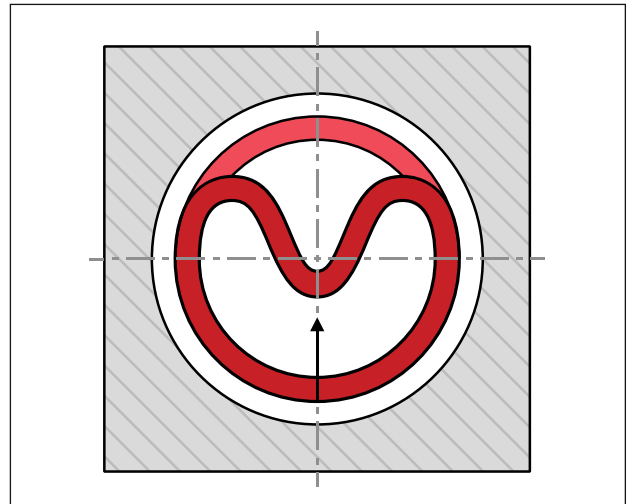
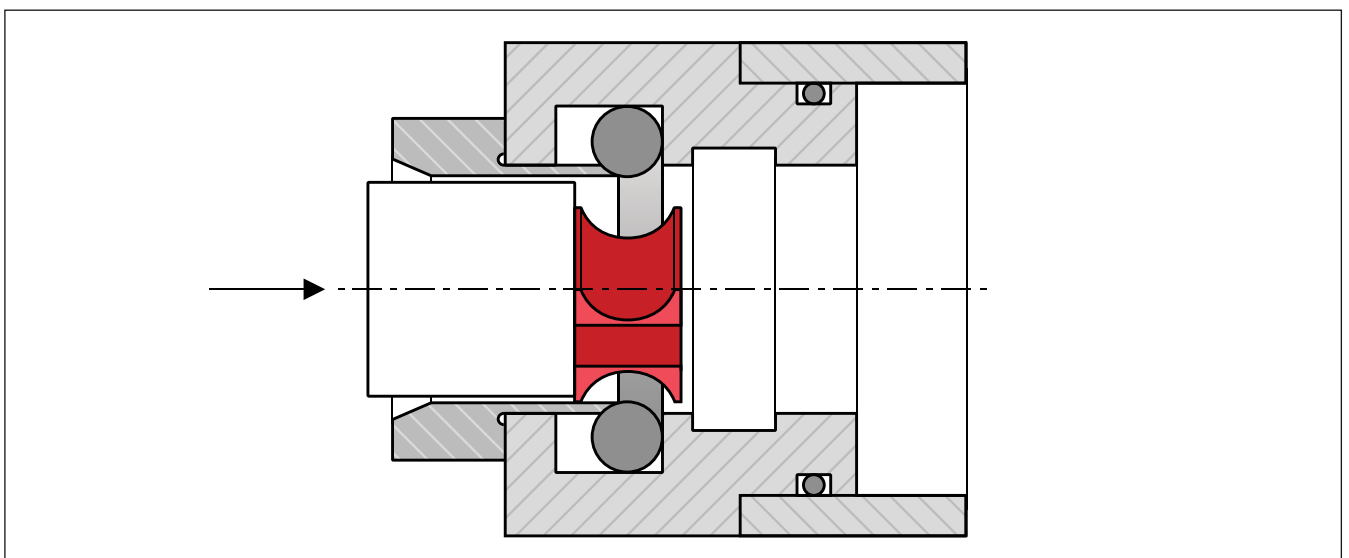

Figure 19: Insertion of the seal ring into the closed groove
Figure 20: Installation of a HaaCap seal with an insertion tube.
- Insert the compressed seal ring into the groove, pressing it gently against the O-ring in the indicated direction by hand (see figure 19). For diameters smaller than 30 mm, the use of an insertion tube is recommended to ease the process and minimize the risk of damaging the seal (see figure 20).